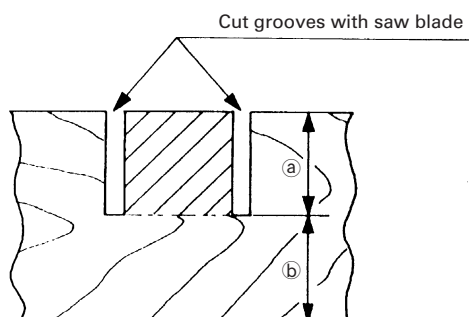

Fig. 47
Grooves in the workpiece can be cut as indicated in Fig. 47 by adjusting the 8mm depth adjustment bolt.
- (1) Loosen the 8mm wing nut and turn the 8mm depth adjustment bolt by hand.
- (2) Adjust to the desired cutting depth by setting the distance between the saw blade and the surface of the base (see ⑥ in Fig. 47).
- (3) The 8mm wing nut must be properly tightened after the adjustment has been completed.